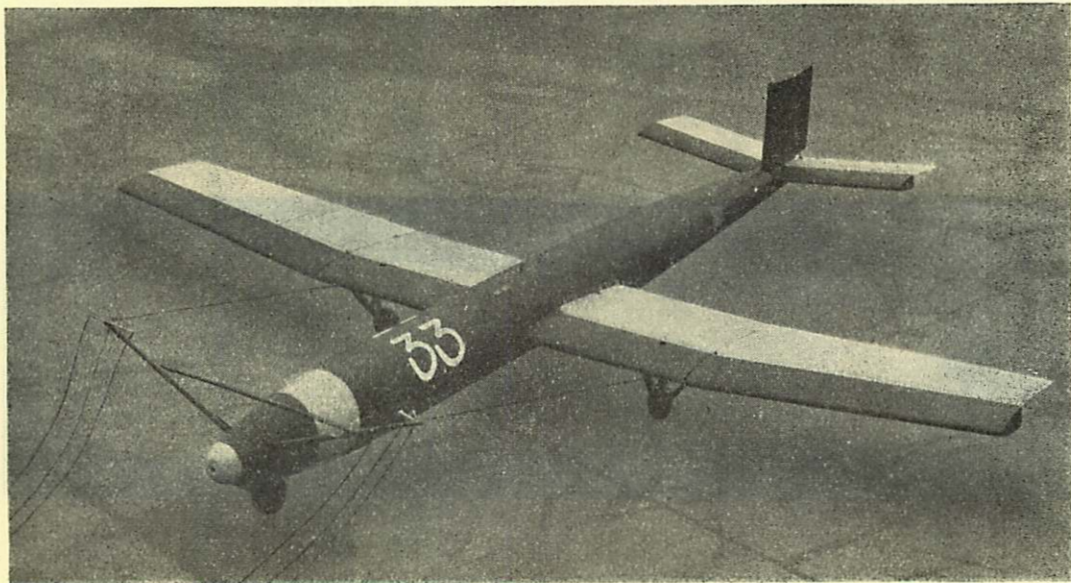

Fig. 1. 25-ft.-Span Winged Target
5. **Winged Targets.** The only target of this type in general use is the 25-ft.-span winged target (Fig. 1). It is of steel and fabric construction and is referred to hereafter as a glider.